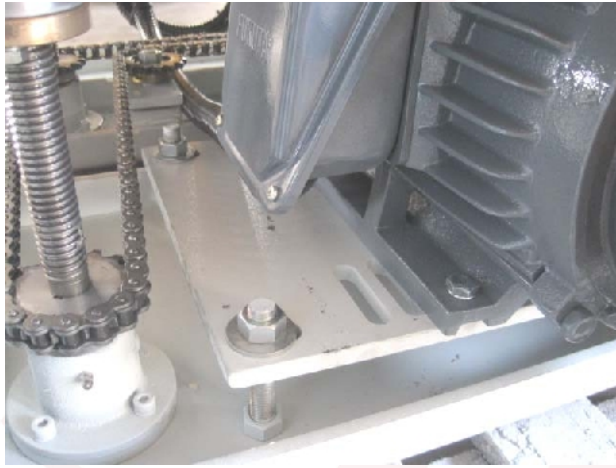

Figure 8
3. Loosen the three bolts (, Figure 8) which hold the motor support bracket to the frame.